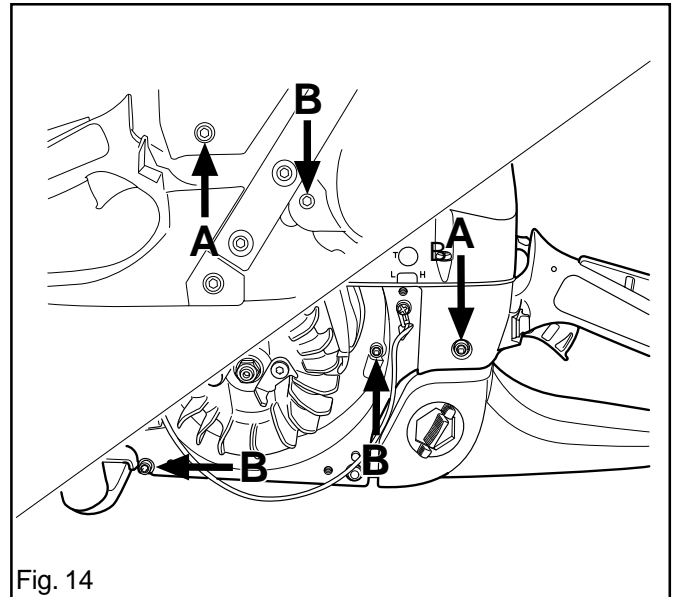

Fig. 14
2. Remove the bolts for the rear damper element (A) and the travel inhibiting bolts (B). See fig. 14.